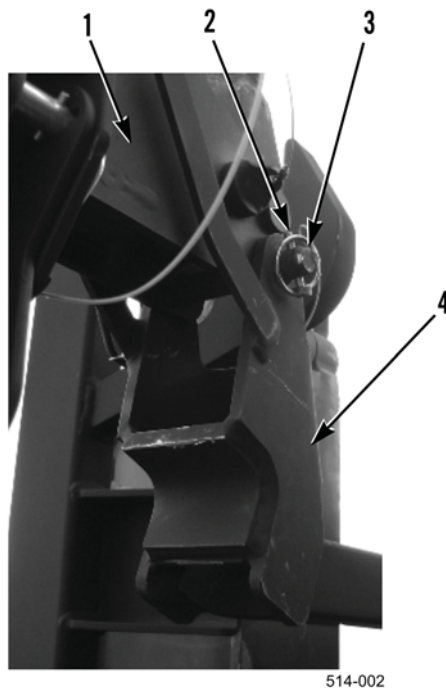

Figure 14. Lower Lift Frame.
16. Remove lifting device and sling from lifting eye (Figure 14, Item 1) at top of lift frame (Figure 14, Item 2).
17. On each side of the stowage unit, turn adjustment levers (Figure 14, Item 3) clockwise to lower lift frame (Figure 14, Item 2).